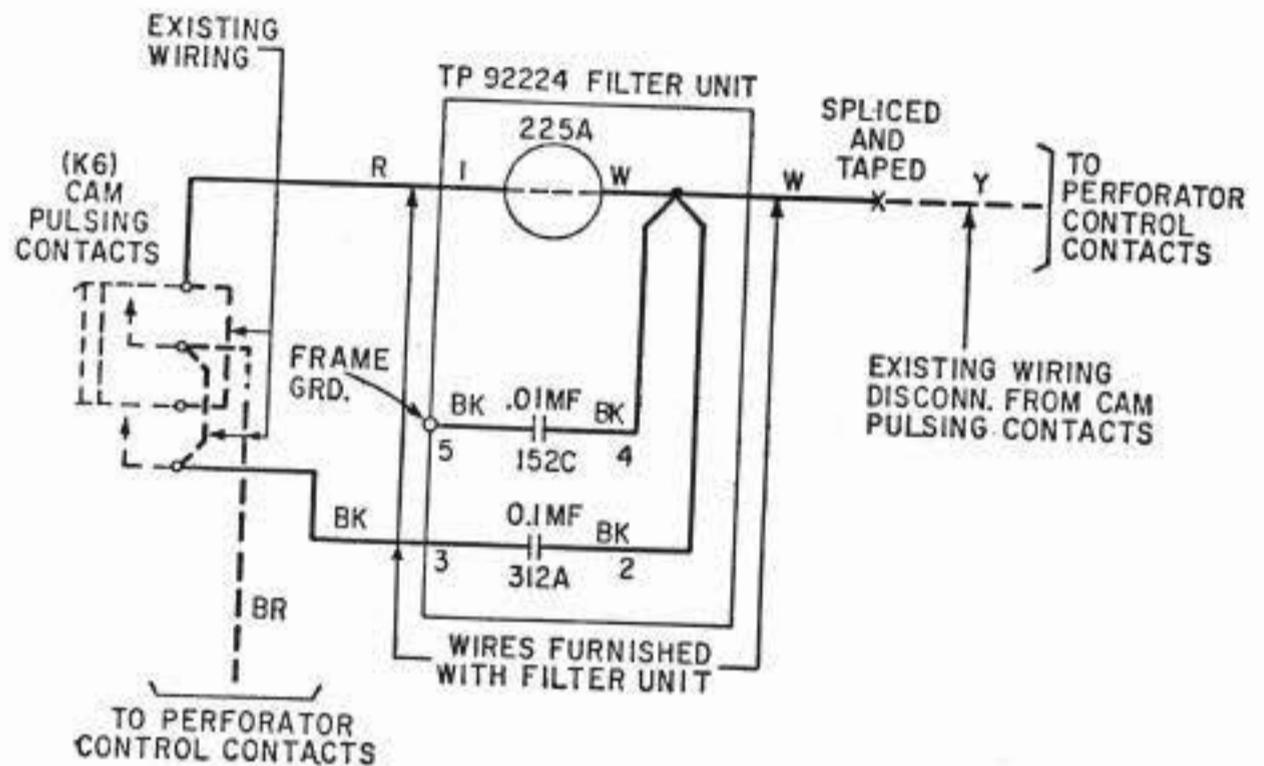

Fig. 1
2.02 Refer to Fig. 1 and connect the leads of the TP92224 filter unit as follows: